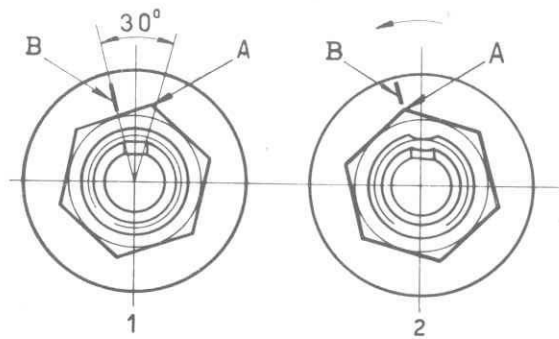

FIG 8:7 To adjust front wheel bearings, the spindle nut is backed off after tightening to correct torque
- 2 Firmly clamp the lower shank of the damper in a vice, lift the outer casing and using Fiat wrench A.57034 unscrew the upper threaded ring 3- (see FIG 8:12).
Key to Fig 8:7 A Edge of nut B Reference mark on lockwasher